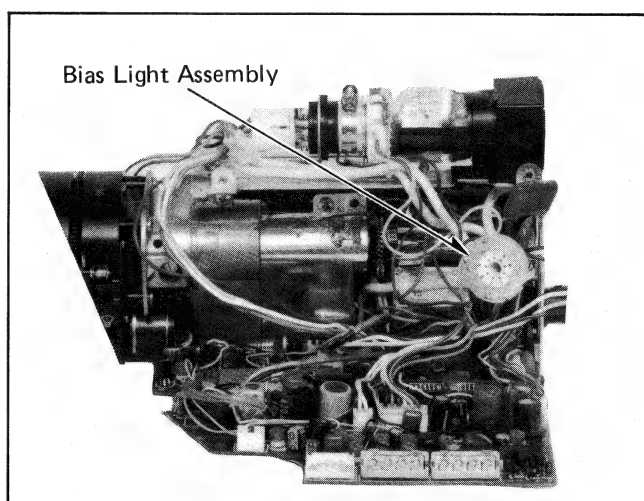

Fig. 5 Right Side View
- 3-4. Disconnect the bias light holder from the pick-up tube (see Fig. 5).